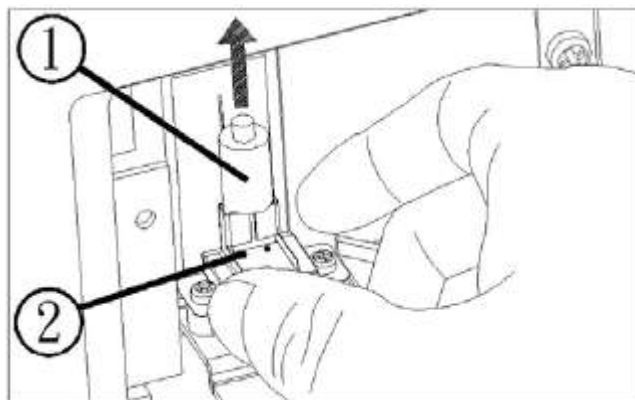

Figure 5a: Lamp change
4. Pull the old lamp (#1) straight up to remove it from socket as shown in the figure 5a above